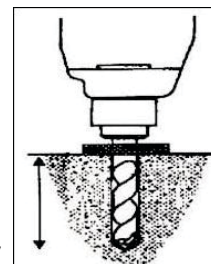

fig.17
6. Drive a $\Phi 16$ percussion drill bit 150 mm deep into the ground from the holes in the base plate using a hole punch (Fig. 17), and clean out the hole.